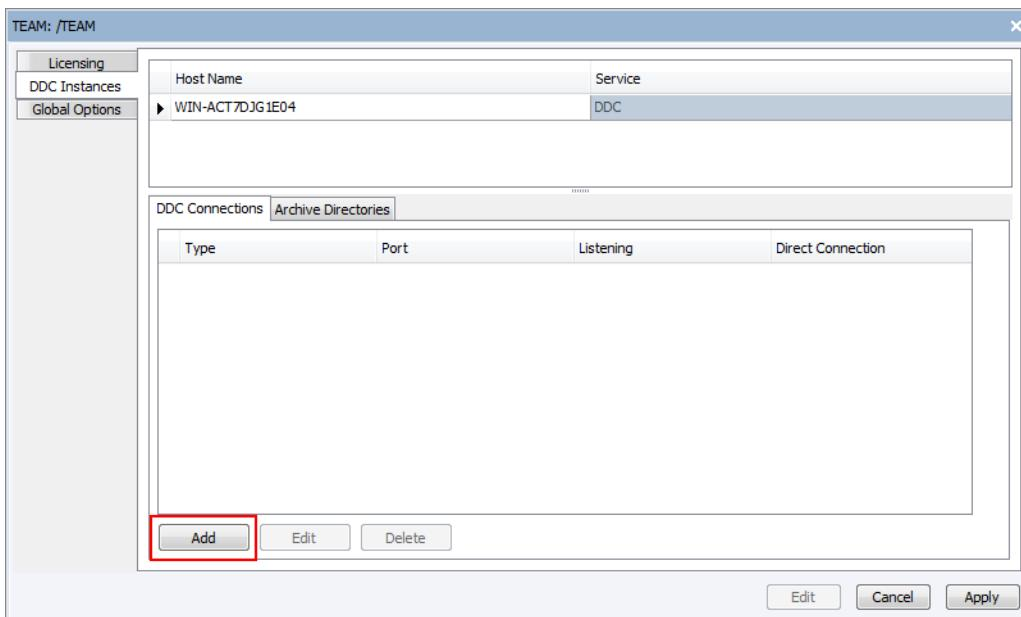

Figure 139 Add DDC Listening Connection
Step 3. Select **Edit** in the lower right corner and then **Add** under the **DDC Connections** tab, as shown in *Figure 139*.